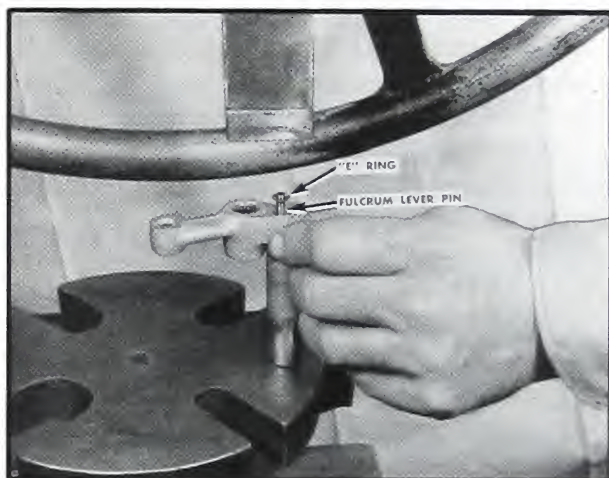

Fig. 5-221. Assembling fulcrum lever pin
3. The fulcrum lever pin should not be replaced unless brinelled or worn beyond .187. When necessary, press out and replace; press new pin, with retaining ring in place, flush with lever surface. Fig. 5-221.